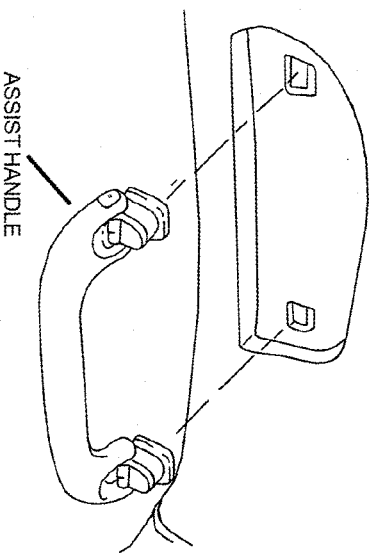

FIGURE 31
- 2.) REMOVE THE ASSIST HANDLE BY PULLING OUTWARD. (SEE FIGURE 31)